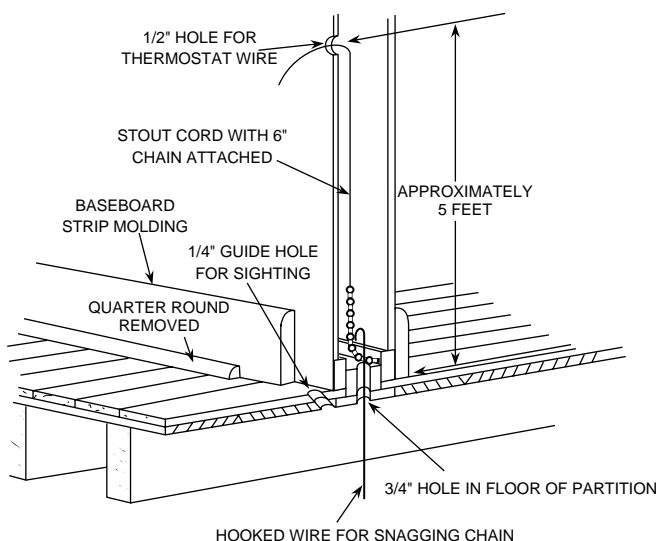

Figure 1. Routing Thermostat Wires
3. Probe for obstructions in partition before drilling ½" hole in wall at selected location. Take up quarter round and drill a small guide hole for sighting (see Fig. 1). From basement, drill ¾" hole in partition floor next to guide hole. In houses without basements, drill ½" hole through ceiling and into partition from above (see Fig. 1).